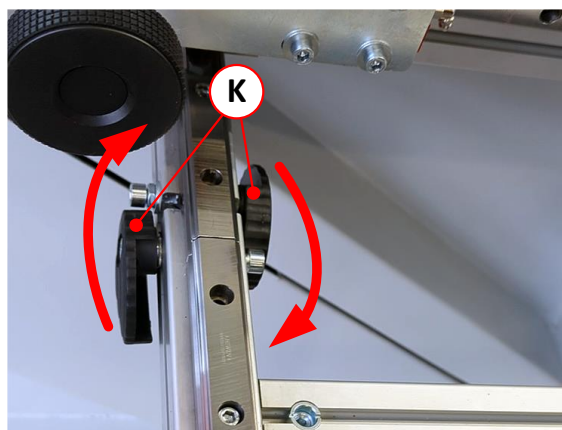

Figure 14: Clamping wheels for locking
8. Fasten the disconnected element to the fixed element by swivelling the two clamping wheels (K) on the left and right sides of the element in the direction of the arrow (see ⇒ Figure 14).
Remark: The following steps 9. to 11. are to be carried out only once (during initial installation). After that, the attachment and removal for changing the saw blade is simply done by opening/closing the locks on the clamp wheels (K), which are located on the side of the guides (see ⇒ Figure 14).